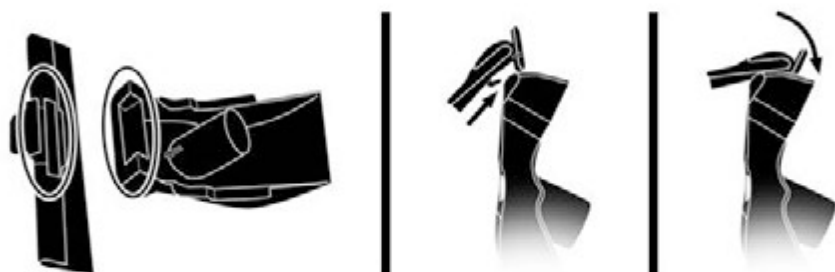

FIGURE 6
1. Note tabs on Squeegee (FIGURE 6-A), which fit into slots on top of Fabric Nozzle (FIGURE 6-B).
2. Insert front Squeegee tab into front Fabric Nozzle slot (FIGURE 6-C).
3. Tilt Squeegee back as shown (FIGURE 6-D) and press firmly until rear tab fits into rear Fabric Nozzle slot. Squeegee should snap securely into place.